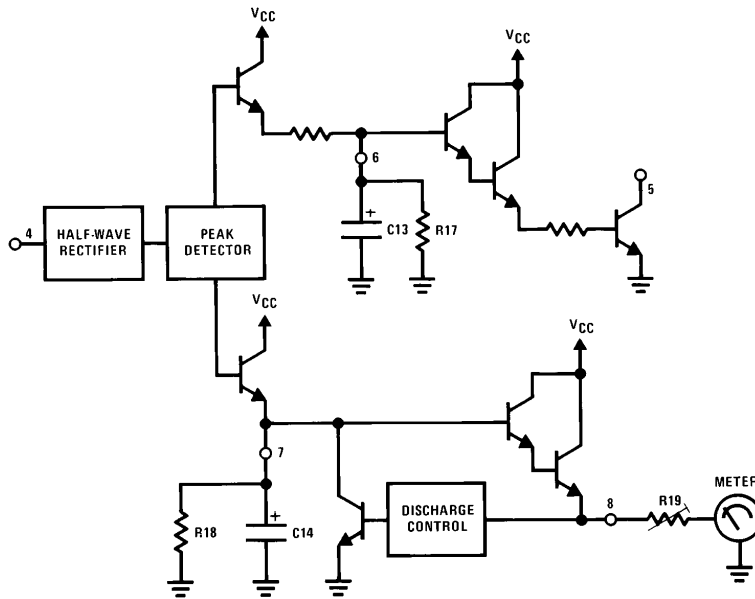

FIGURE 7. Auto Level-Meter Circuit
**AUTOMATIC LEVEL CONTROL—ALC** (Figure 7)
**METER DRIVING—MOTIONAL PEAK LEVEL RESPONSE** (Figure 7)